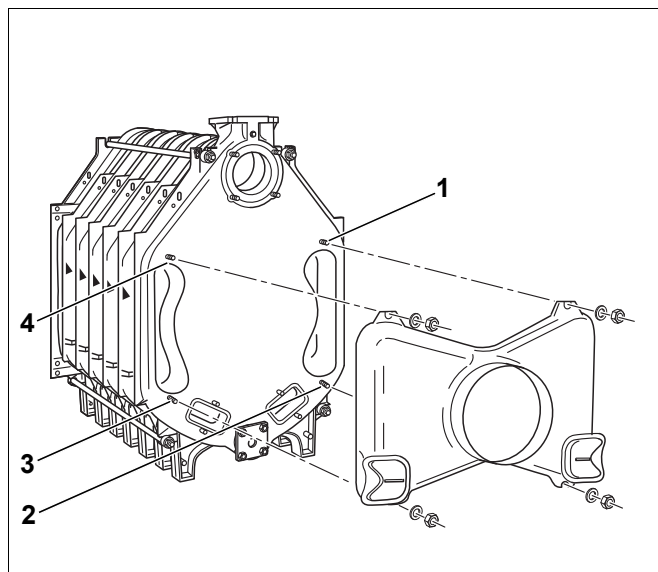

Fig. 29 Install the flue gas collector
- Position the flue gas collector onto the four studs at the rear section (Fig. 29, [1] to [4]) and secure with washers and nuts.